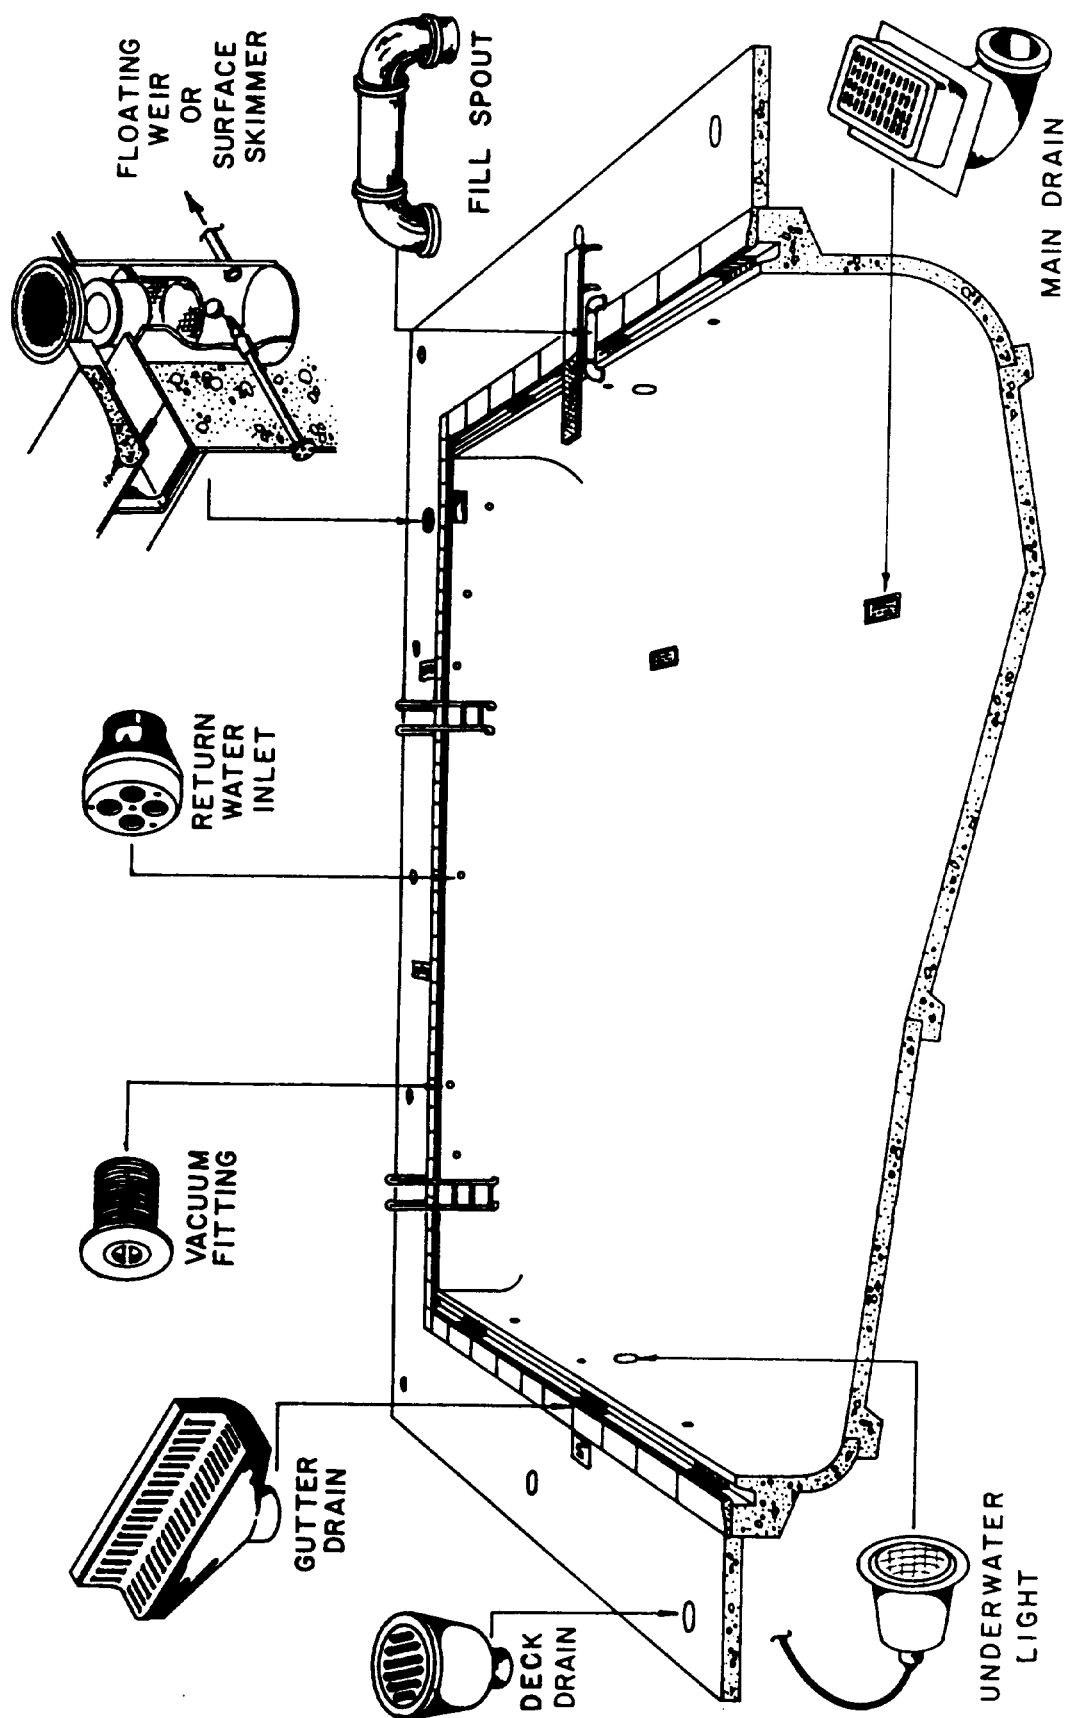

Figure 3-1. Longitudinal section through pool, showing fittings
a. Recirculating pools are pools in which the water is constantly pumped from the pool, filtered, disinfected, and pumped back into the pool. Water is added as needed to make up for losses due to evaporation, leakage, and water discharged to waste through overflow troughs. This is the most sanitary and economical type of pool and is the type approved for use at military installations. (See figures 3-1 and 3-2.)